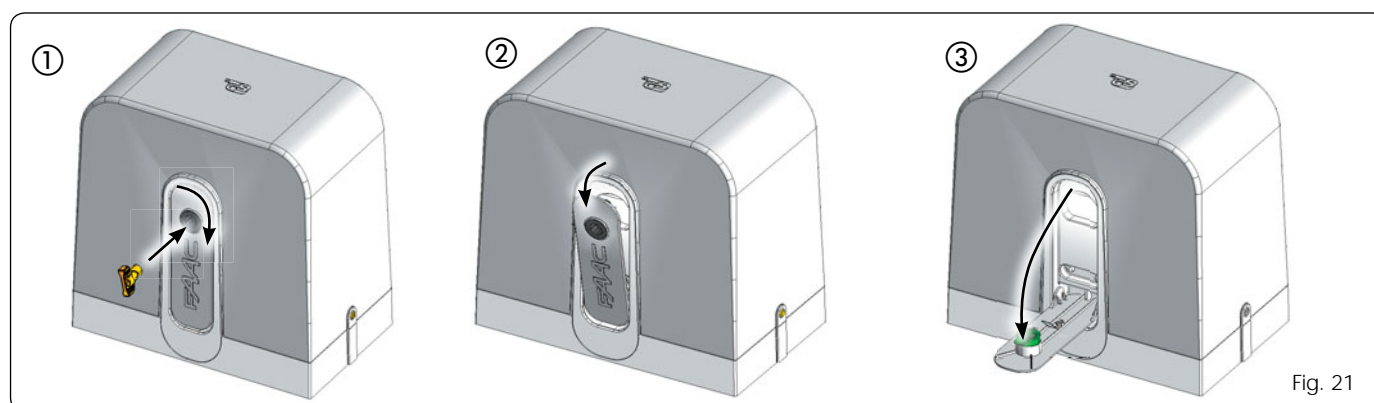

Fig. 21
1. Turn the release clockwise as shown in Fig. 21 re. ①. The release lever will move slightly away from the operator body (Fig. 21 re. ②).
2. Fully lower the release lever to the mechanical stop Fig. 21 re. ③.